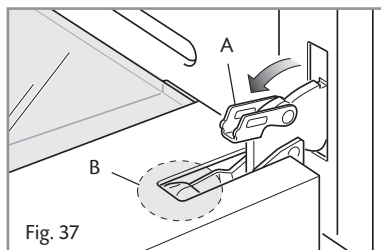
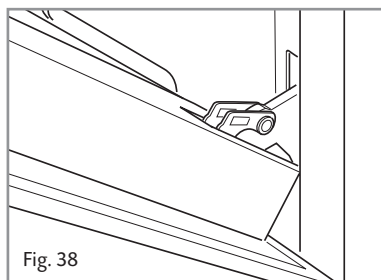

Fig. 37
Fig. 38
- Fully open the lever "A" on the left and right hinges (Fig 37).
- Gently close the door (Fig. 38) until the left and right hinges are hooked to part "B" of the door (Fig. 37).
1. Make sure the door is locked open (see fig. 38).